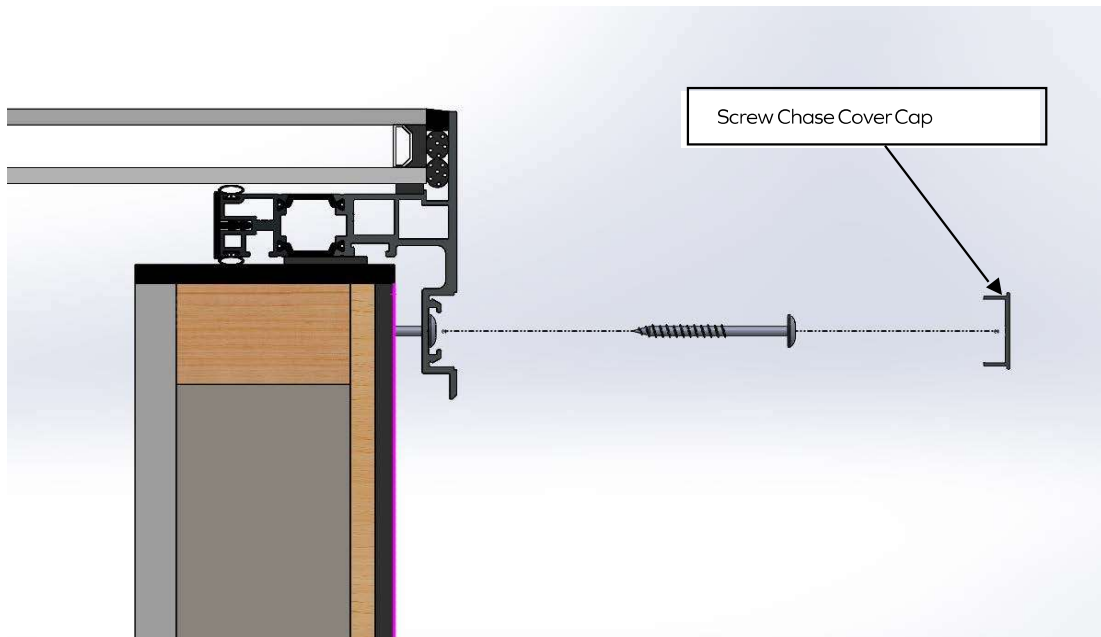

Fig 3 – Kerb Fixing Screw Cover Cap
- ▶ 7 Using the kerb fixing screws supplied, fix the frame to the kerb horizontally through the fixing holes in the perimeter frame. Make sure to pilot drill the kerb fixing holes with a 3mm drill bit so that the stainless-steel screw heads do not shear off. DO NOT overtighten the fixing screws as this will deform the perimeter glazing frame and could cause damage to the glass or cause leaks. See *Figure 3*.